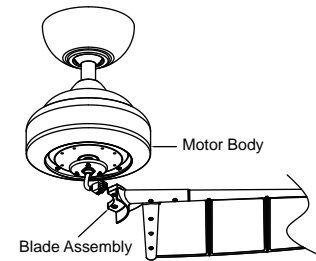

Fig. 16
Step 2. Attach one assembled blade arm to the motor hub by tightening the two “pre-installed” motor screws in the blade arm. Repeat steps for the remaining assembled blade arms. (Fig. 16)